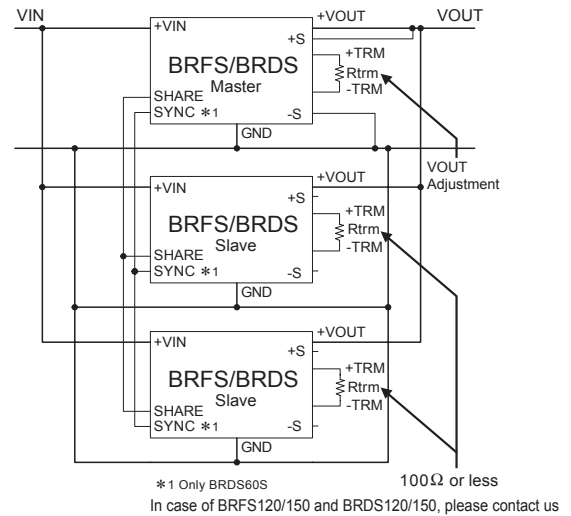

Fig.5.1 Example of wiring method in parallel operation
- In parallel operation, wiring as Fig.5.1